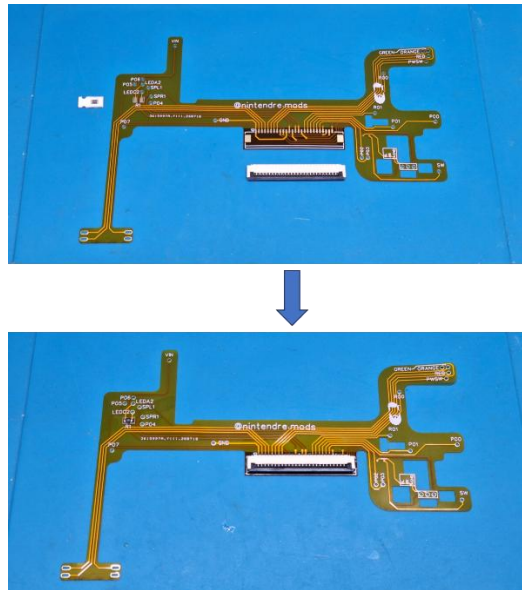

Figure 18: Button extender flex PCB with components
1. Solder the 330 Ohm resistor and 26 pin FPC connector to the button extender flex PCB as shown in Figure 18.